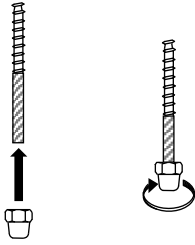

Fig 5
2. Screw the cap onto the bolt (Fig 5).